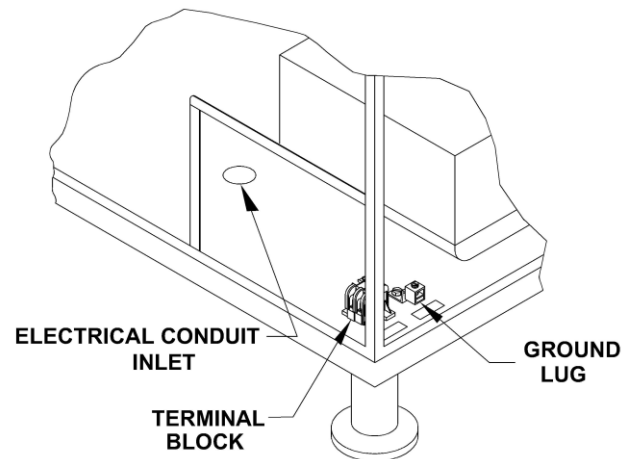

Figure 3-10
4. Make the electrical connection using flexible conduit, per local code. See Figure 3-10.